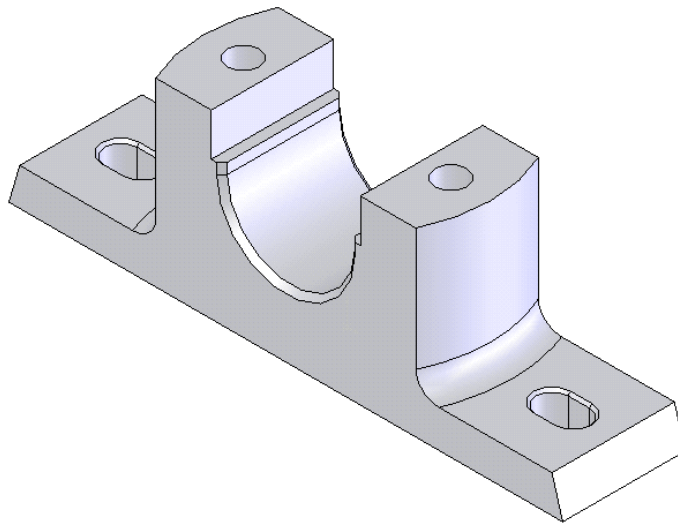
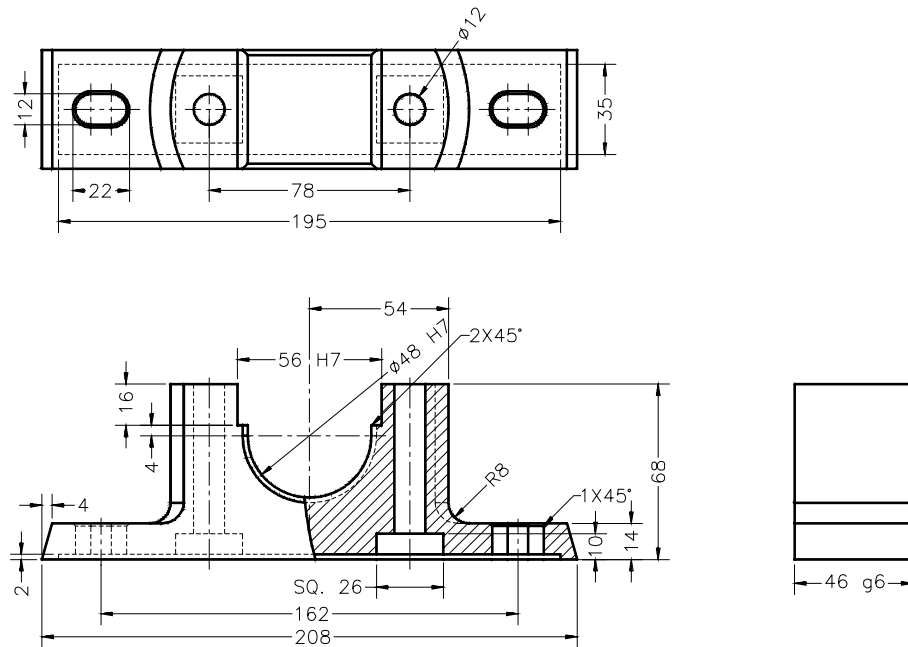

Figure 6-78 Solid model for Tutorial 1
Figure 6-79 Top view, Front broken-out section view, and Side view with dimensions
In this tutorial you will create the model shown in Figure 6-78. The dimensions of the model are shown in Figure 6-79. **(Expected time: 30 min)**
Tip. Refer to Figure 6-79; you will observe that the dimension that reflects the depth of the extruded feature has a tolerance applied to it. Therefore, double-click the extruded feature in the **FeatureManager Design Tree** or in the drawing area. All the dimensions applied to the model are displayed. Select the dimension that reflects the depth of the extruded feature and apply the tolerance using the **Dimension PropertyManager**.
It is clear from Figure 6-79 that the bolt to be inserted in the part will be a square head bolt. Therefore, you need to create the recess for the head of the bolt. It will be created by extruding the square sketch to a given distance using the cut option.
2. Using the standard sketching tools create the sketch. The sketch includes two squares of length 26 and the distance between the centers of the squares is 78. Refer to Figure 6-79. Apply the required relations and dimensions.
3. Using the **Cut-Extrude PropertyManager** extrude the sketch to the given distance. For distance refer to Figure 6-79.
Next, you need to define the placement of the sketched point. It is clear from Figure 6-79 that the centerpoint hole is coincident with the center point of the square recess feature. Therefore, you will coincide the sketched points with the center of the squares. First you will have to change the model view display from **Shaded** to **Hidden Lines Visible** so that the square recess feature is visible.
Tip. Refer to Figure 6-79; you will find that the dimension of the cut feature is given from the center of the sketch. For creating this dimension create a diagonal centerline between the right endpoint of the lower horizontal line and the left endpoint of the upper horizontal line. Create a sketched point and apply the midpoint relation between the centerline and the sketched point. Using this sketched point you can dimension the sketch from the center of the dimension.